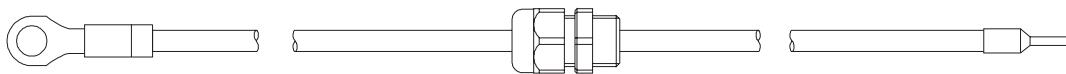

Figure 2-9 Work Lead
- A **work lead** which connects from the power supply to the work table (Fig. 2-9).